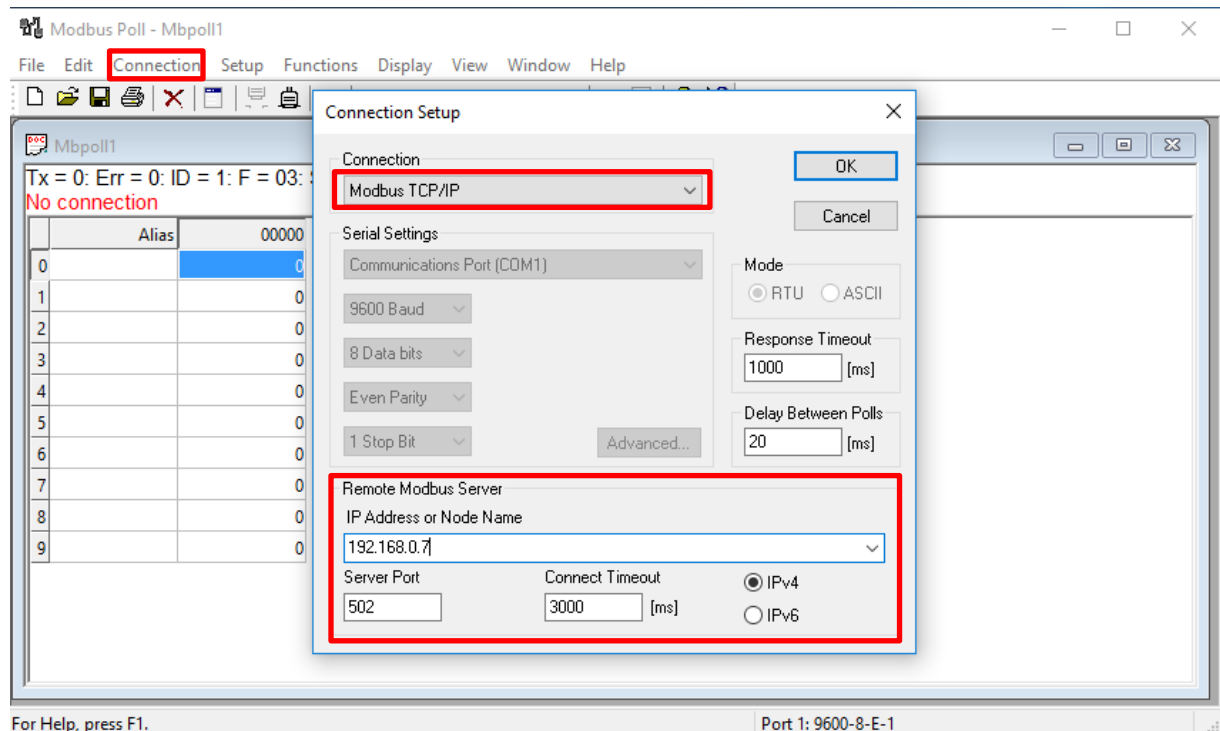

Figure 11.
8. To validate the Modbus TCP communication, here used **Modbus Poll** as an example. Click on **Connection** and select **Modbus TCP/IP**. Please enter the IP address and port number of the PowerPACK Pro-5 to ensure that the PC can send a request to the PowerPACK Pro-5, as shown in Figure 11.